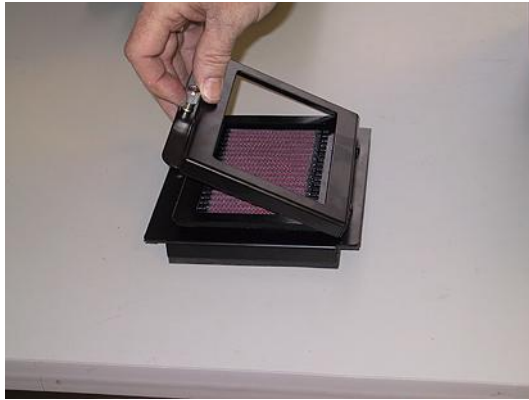

Figure B-5
- 4) Open the assembly as illustrated in Figure B-5.